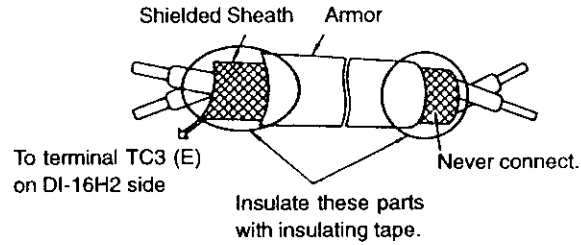

Fig. 4 Shielded wire termination
- Use a shielded wire to connect to TC1 and TC2. Connect the wire as shown in Fig. 4 to prevent interference by noise. The wire must be 50m or shorter.